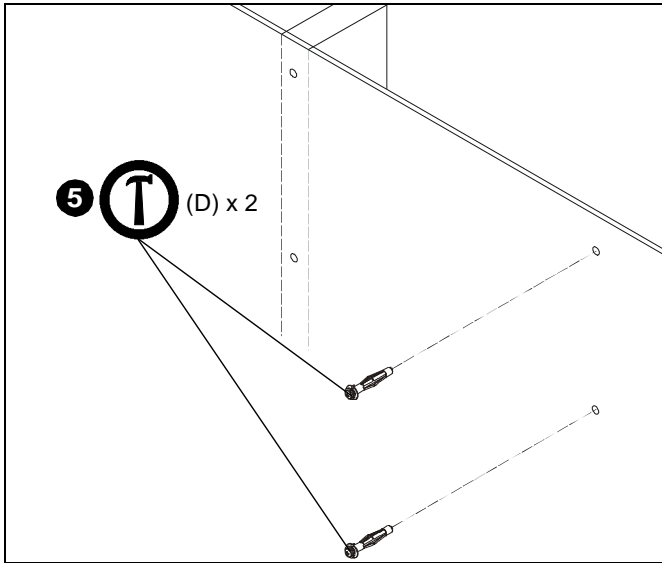
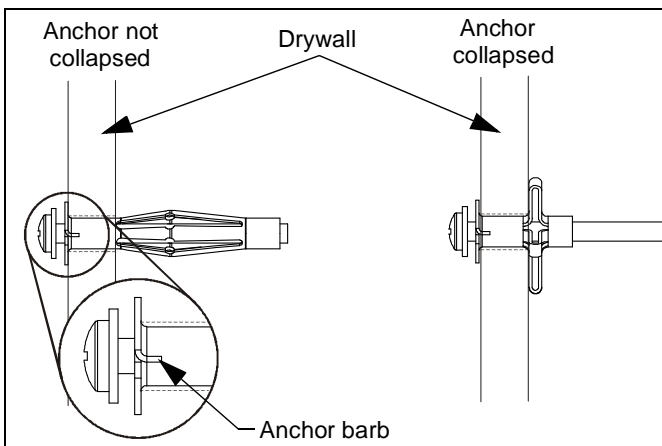

Figure 3
Figure 4
- Gently tap two anchors (D) into anchor holes. Anchor barbs should be fully engaged in drywall. (See Figure 3) and (See Figure 4)
- Using Phillips screwdriver, tighten anchor screw until anchor has fully collapsed against back side of drywall. (See Figure 4)
- Remove and save anchor screws from anchors (D).
**NOTE:** Anchors (D) may come with small washers which should be discarded.